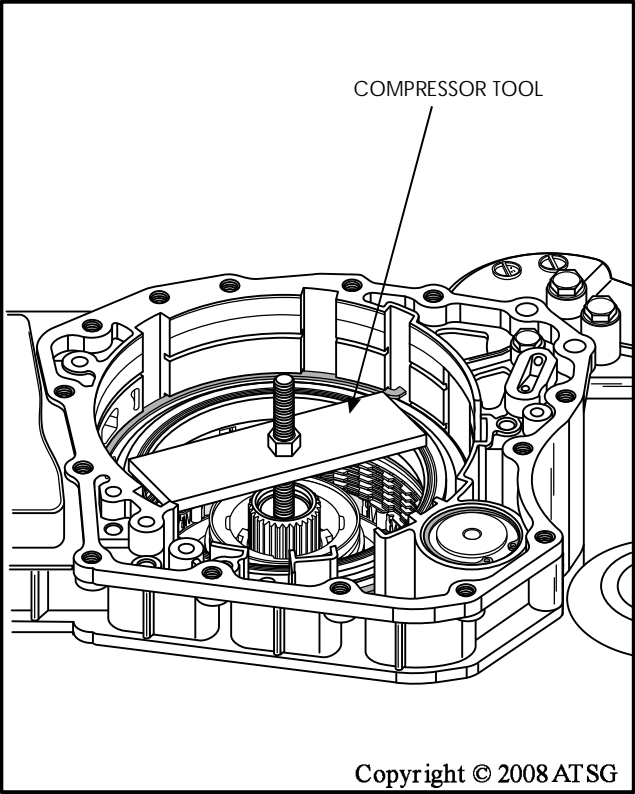

Figure 191
11. Install universal compression tool, as shown in Figure 191, and compress the retainer.